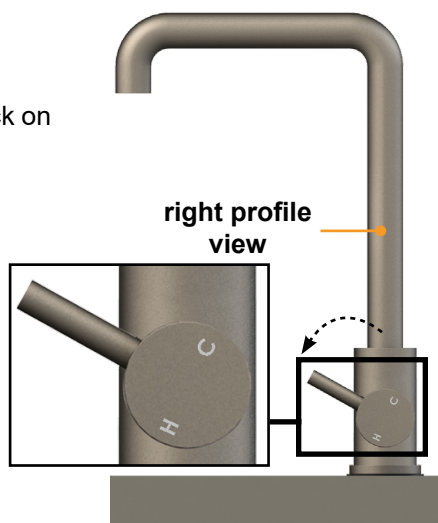
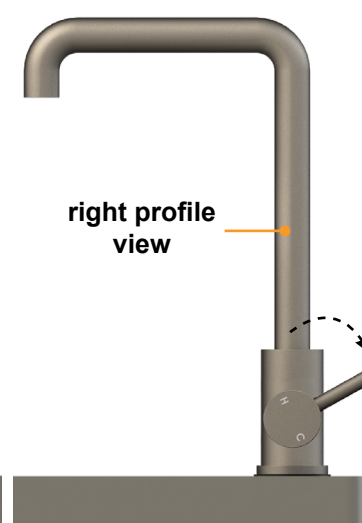

Fig.10
Fig.11
2. Move the lever towards you for hot water (**Fig. 10**) and away from you for cold water (**Fig. 11**).